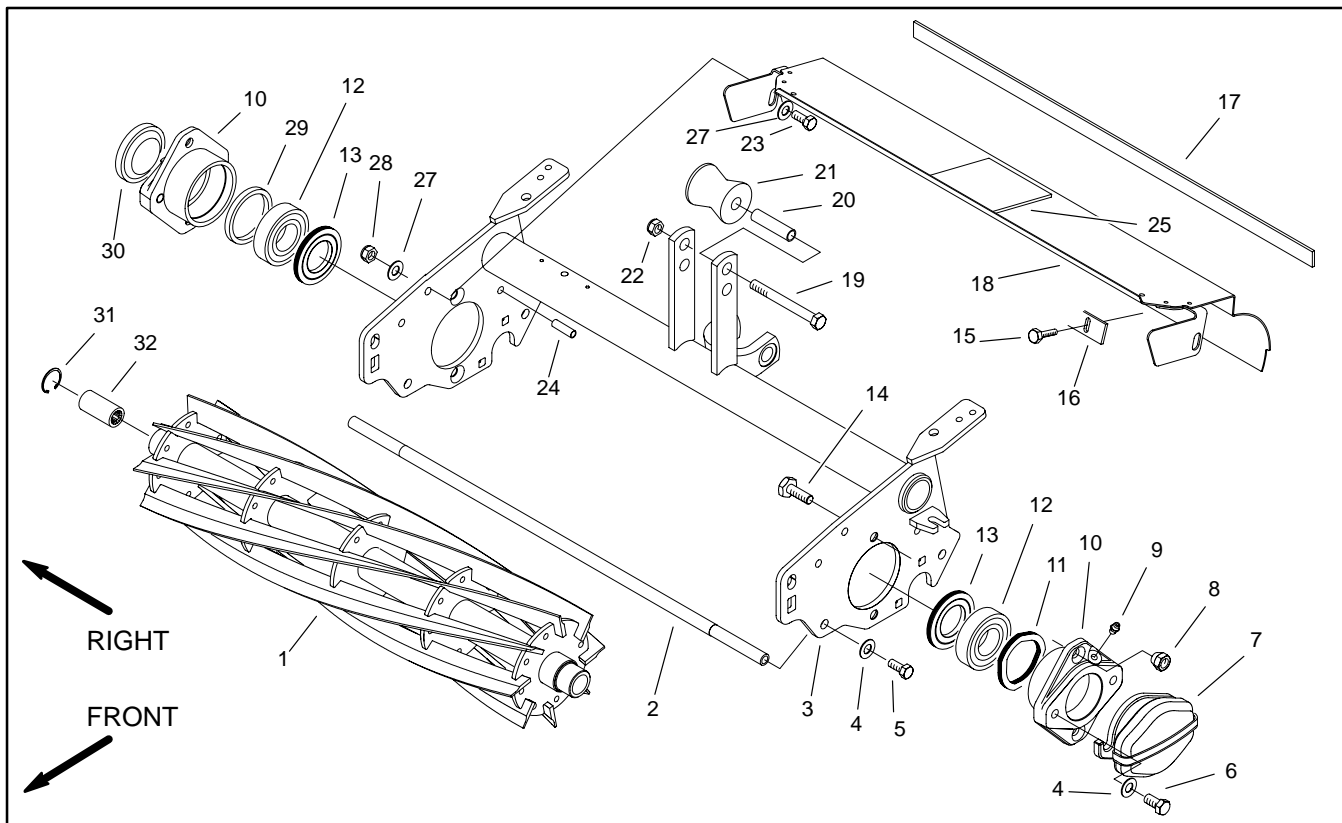

Figure 58
**Note:** Figure 58 shows the reel assembly for a Single Point Adjust (SPA) cutting unit. Both the SPA and 4-Bolt cutting units are similar in construction with the exception of reel and reel frame. Reel and bearing replacement procedures are the same for each unit.
**Note:** The counterweight (7) and splined coupler (32) are not installed on the same side of the cutting unit. The coupler would be installed on the side of the unit accepting the hydraulic motor. The counterweight would be on the side opposite the motor.
### Removal (Fig. 58)
1. Inspect splined coupler (32) as follows (Fig. 58):
- A. Remove retaining ring (31) and drive coupler from the reel shaft (1).
3. Inspect bearings (12) and grease seals (13) as follows (Fig. 58):
## Installation (Fig. 58)
4. Install left bearing housing (10) as follows:
- A. Insert bearing housing (10) into the left sideplate of the frame over the bearing (12). Make sure the grease fitting (9) is facing up.
- B. Apply Loctite 242 or equivalent to the threads of the two tapered screws (14).
- C. Insert both tapered screws (14) through the side plate and bearing housing (10). Start tapered nuts (8) onto the screws.
- D. Place flat wire spring (11) into the bearing housing (10).
5. Reinstall shield rod (2) to the frame. Secure rod with both flat washers (4) and cap screws (5).
6. Tap both bearing housings (10) with a soft hammer to seat bearings (12). Tighten tapered nuts (8) to secure housings.
7. Insert drive coupler (32) into end of reel shaft (1) to accept hydraulic reel motor. Make sure splines of coupler mesh with those of the drive adapter. Secure coupler with retaining ring (31) (Fig. 58 and 59).